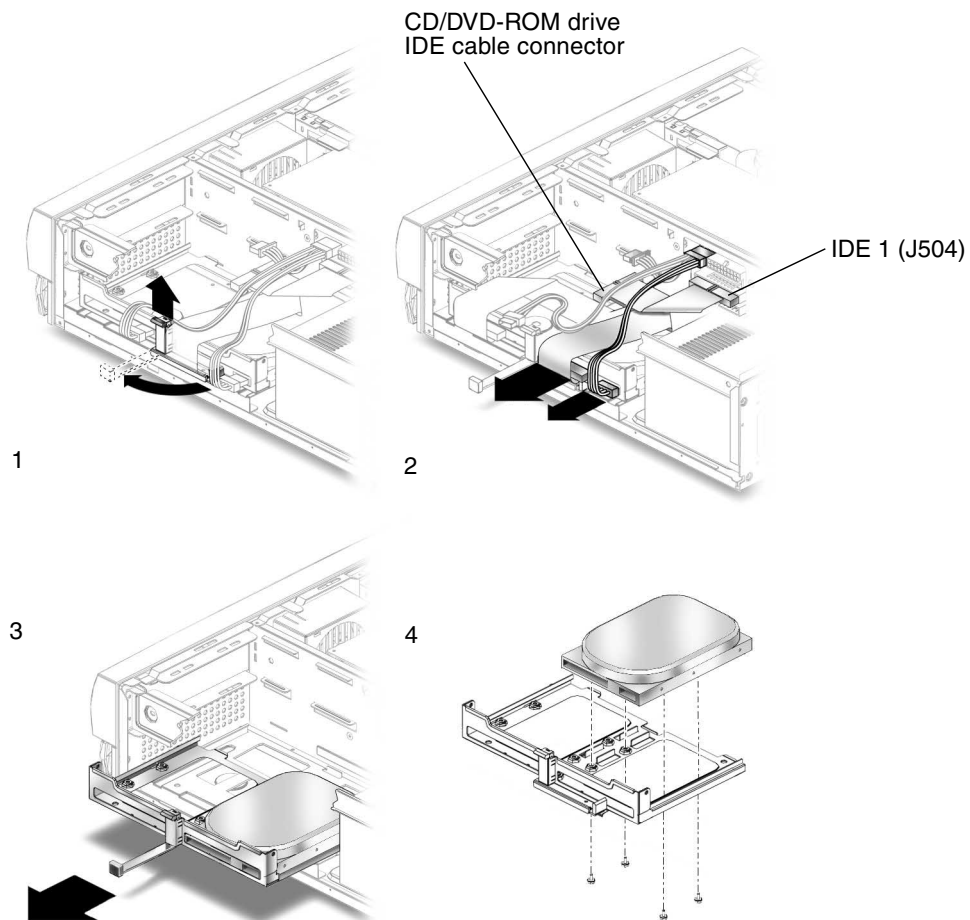

FIGURE 4 Removing and Replacing a Primary Hard Drive
2. Lift the spring-loaded latch upward to release the hard drive tray from the chassis (FIGURE 4).
1. Position the hard drive into the hard drive tray (FIGURE 4).